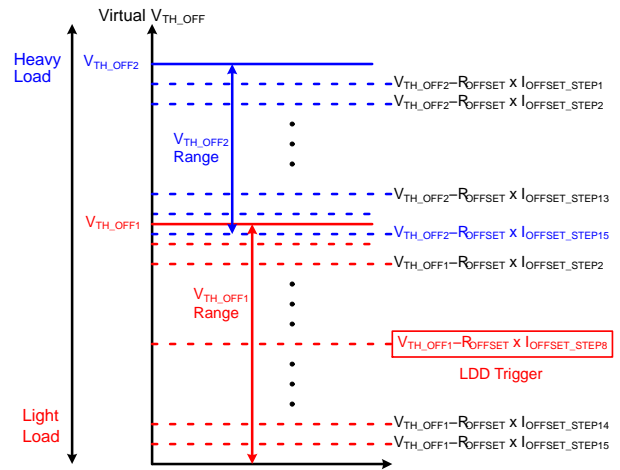

Figure 27. Light Load Detection
To guarantee stable operation under light load condition, FAN6248 adopts a light load detection function. The modulation current I_{OFFSET} is mainly used for the adaptive dead time control. When the output load is heavy, I_{OFFSET_STEP} declines due to large di/dt in the secondary side current to maintain 280 ns of t_{DEAD} in FAN6248HC(D). On the contrary, I_{OFFSET_STEP} increases at light load condition by small di/dt of SR current. FAN6248 can detect light load condition by using this I_{OFFSET_STEP} as shown in Figure 27. When SR turn-off threshold voltage is V_{TH_OFF1} and the modulation current is higher than I_{OFFSET_STEP8} , the light load detection is triggered. In this mode, dead time target becomes to 320 ns of t_{DEAD_LIGHT} in FAN6248HC(D) and 360 ns in FAN6248LC(D) version.